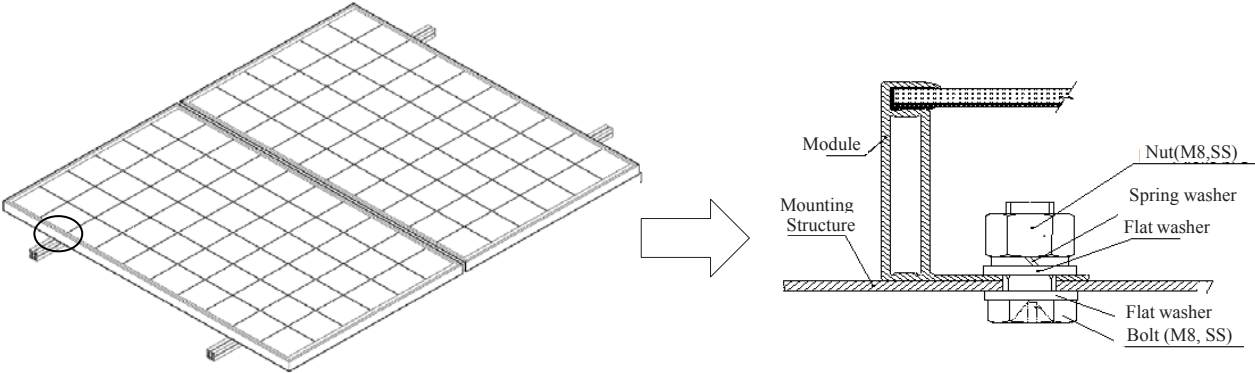

Figure 1 Mounting holes
- Mounting hole system: Use the corrosion-resistant M8 bolt, for fixing with the installation support through the installation hole in the side frame of the module, as shown in Fig. 1.